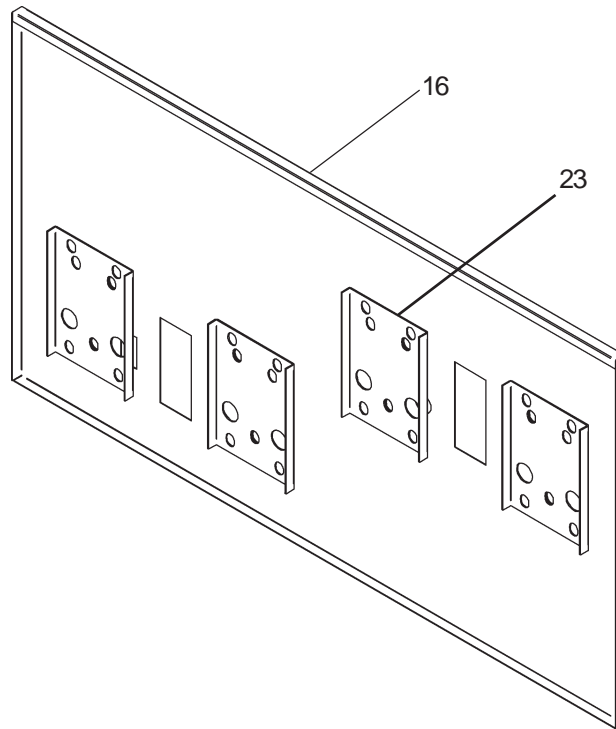

FIG. 11
EDFP217C: Refer to Fig. 11 for placement of braces onto back panel.
Installing back panel: When installing back panel (item 16) without mounting plate accessory MP20 or MP20RA, attach (4) channel braces (item 23) as shown in Fig. 11. Remove the protective backing from the tape installed on the brace. Line up the corresponding holes in the brace and back panel and press firmly in place.